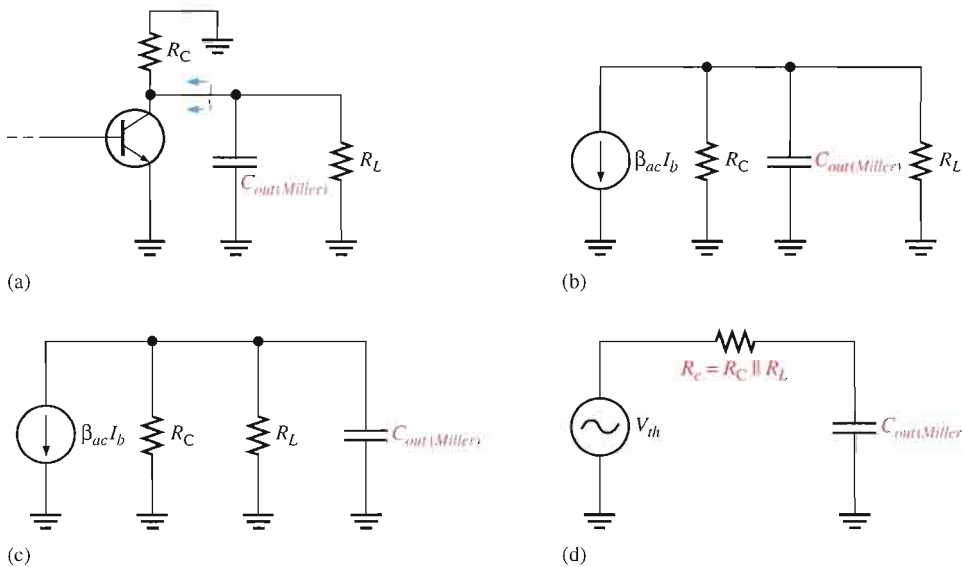

FIGURE 10–33
The ideal Bode plot of the low-frequency response of this amplifier is shown in Figure 10–27. As a practical matter, $f_{c(\text{input})}$ and $f_{c(\text{bypass})}$ are so close in value that the difference would be difficult to measure.
► **FIGURE 10–27**
Ideal Bode plot for the total low-frequency response of the amplifier in Figure 10–26.
5. What is the critical frequency when $R_D = 1.5 \text{ k}\Omega$, $R_L = 5 \text{ k}\Omega$, and $C_2 = 0.0022 \mu\text{F}$ in a circuit like Figure 10–22?
Miller's Theorem in High-Frequency Analysis By applying Miller's theorem to the circuit in Figure 10–28(b) and using the midrange voltage gain, you have a circuit that can be analyzed for high-frequency response. Looking in from the signal source, the capacitance C_{bc} appears in the Miller input capacitance from base to ground.
C_{be} simply appears as a capacitance to ac ground, as shown in Figure 10–29, in parallel with $C_{in(Miller)}$. Looking in at the collector, C_{bc} appears in the Miller output capacitance from collector to ground. As shown in Figure 10–29, it appears in parallel with R_c .
These two Miller capacitances create a high-frequency input RC circuit and a high-frequency output RC circuit. These two circuits differ from the low-frequency input and output circuits, which act as high-pass filters, because the capacitances go to ground and therefore act as low-pass filters. The equivalent circuit in Figure 10–29 is an ideal model because stray capacitances that are due to circuit interconnections are neglected.
► **FIGURE 10–29**
The Input RC Circuit At high frequencies, the input circuit is as shown in Figure 10–30(a), where $\beta_{ac}r'_e$ is the input resistance at the base of the transistor because the bypass capacitor effectively shorts the emitter to ground. By combining C_{be} and $C_{in(Miller)}$ in parallel and repositioning, you get the simplified circuit shown in Figure 10–30(b). Next, by thevenizing the circuit to the left of the capacitor, as indicated, the input RC circuit is reduced to the equivalent form shown in Figure 10–30(c).
▲ **FIGURE 10–30**
Derive the input RC circuit for the BJT amplifier in Figure 10–31. Also determine the critical frequency. The transistor's data sheet provides the following: $\beta_{ac} = 125$, $C_{be} = 20$ pF, and $C_{bc} = 2.4$ pF.
The resulting high-frequency input RC circuit is shown in Figure 10–32. The critical frequency is
► **FIGURE 10–32**
High-frequency equivalent input RC circuit for the amplifier in Figure 10–31.
Determine the input RC circuit for Figure 10–31 and find its critical frequency if a transistor with the following specifications is used: $\beta_{ac} = 75$, $C_{be} = 15 \text{ pF}$, $C_{bc} = 2 \text{ pF}$.
The Output RC Circuit The high-frequency output RC circuit is formed by the Miller output capacitance and the resistance looking in at the collector, as shown in Figure 10–33(a). In determining the output resistance, the transistor is treated as a current source (open) and
one end of R_C is effectively ac ground, as shown in Figure 10–33(b). By rearranging the position of the capacitance in the diagram and thevenizing the circuit to the left, as shown in Figure 10–33(c), you get the equivalent circuit in Figure 10–33(d). The equivalent output RC circuit consists of a resistance equal to R_C and R_L in parallel in series with a capacitance that is determined by the following Miller formula:
Determine the critical frequency of the amplifier in Example 10–10 (Figure 10–31) due to its output RC circuit.
The equivalent output RC circuit is shown in Figure 10–34. Determine the critical frequency as follows ($C_{out(Miller)} \cong C_{bc}$):
► FIGURE 10–34
Figure 10–35(a) shows a JFET common-source amplifier that will be used to illustrate high-frequency analysis. A high-frequency equivalent circuit for the amplifier is shown in Figure 10–35(b). Notice that the coupling and bypass capacitors are assumed to have negligible reactances and are considered to be shorts. The internal capacitances C_{gs} and C_{gd} appear in the equivalent circuit because their reactances are significant at high frequencies.
▲ FIGURE 10–35
Related Problem If the gain of the amplifier in Figure 10–38 is increased to 10, what happens to f_c ?
The Output RC Circuit The high-frequency output RC circuit is formed by the Miller output capacitance and the output resistance looking in at the drain, as shown in Figure 10–39(a). As in the case of the BJT, the FET is treated as a current source. When you apply Thevenin's theorem, you get an equivalent output RC circuit consisting of R_D in parallel with R_L and an equivalent output capacitance.
This equivalent output circuit is shown in Figure 10–39(b). The critical frequency of the output RC circuit is
◀ **FIGURE 10–39**
Determine the critical frequency of the output RC circuit for the FET amplifier in Figure 10–38. What is the phase shift introduced by this circuit at the critical frequency? Which RC circuit is dominant?
Related Problem If A_v of the amplifier in Figure 10–38 is increased to 10, what is the f_c of the output circuit?
As you have seen, the two RC circuits created by the internal transistor capacitances influence the high-frequency response of both BJT and FET amplifiers. As the frequency increases and reaches the high end of its midrange values, one of the RC circuits will cause the amplifier's gain to begin dropping off. The frequency at which this occurs is the dominant critical frequency; it is the lower of the two critical high frequencies. An ideal high-frequency Bode plot is shown in Figure 10–40(a). It shows the first break point at $f_{c(input)}$ where the voltage gain begins to roll off at -20 dB/decade . At $f_{c(output)}$, the gain begins dropping at -40 dB/decade because each RC circuit is providing a -20 dB/decade roll-off. Figure 10–40(b) shows a nonideal Bode plot where the voltage gain is actually -3 dB below midrange at $f_{c(input)}$. Other possibilities are that the output RC circuit is dominant or that both circuits have the same critical frequency.
▲ FIGURE 10–40